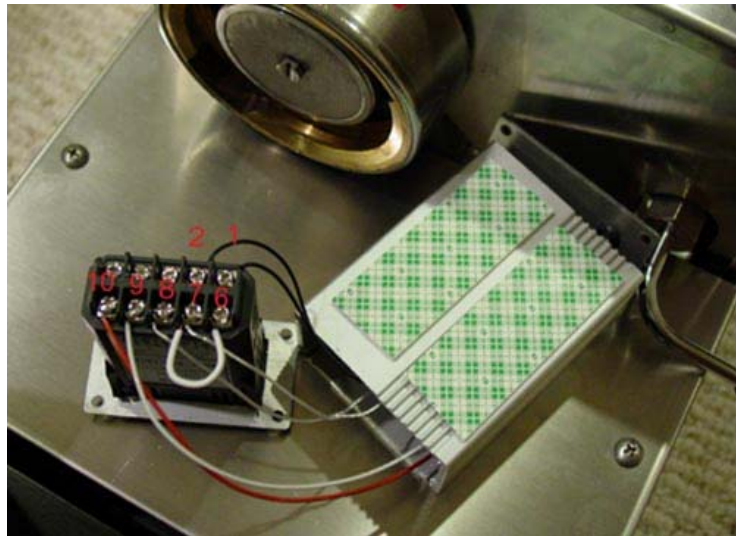

Figure16a. Feed wires through the box before connecting to the controller.
- 3) Feed the cables through the controller box. Connect them to the controller as shown in Fig 16a. Wiring the controller correctly is a very critical step. Failure to install it correctly can cause damage to the machine and electric shock. The terminal numbers are printed on labels located on both sides of the controller. The black colored power cables need to be